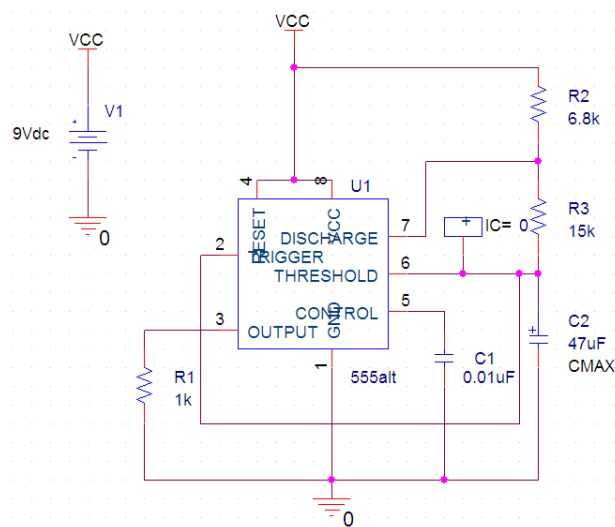

Figure 1. Timer Schematic
2. Open the **PAGE1** schematic, if it isn't open already. We will draw the schematic shown in Figure 1.
3. Click the **Place part (P)** icon or click on **Place > Part** from the top menu bar.
8. Click the **Place ground (P)** icon or click on **Place > Ground** from the top menu bar. Begin typing **GND** and double click the correct part from the list to place the part on your schematic page. Repeat for power (**VCC_BAR**).
10. Wire all the parts as is shown in Figure 1.